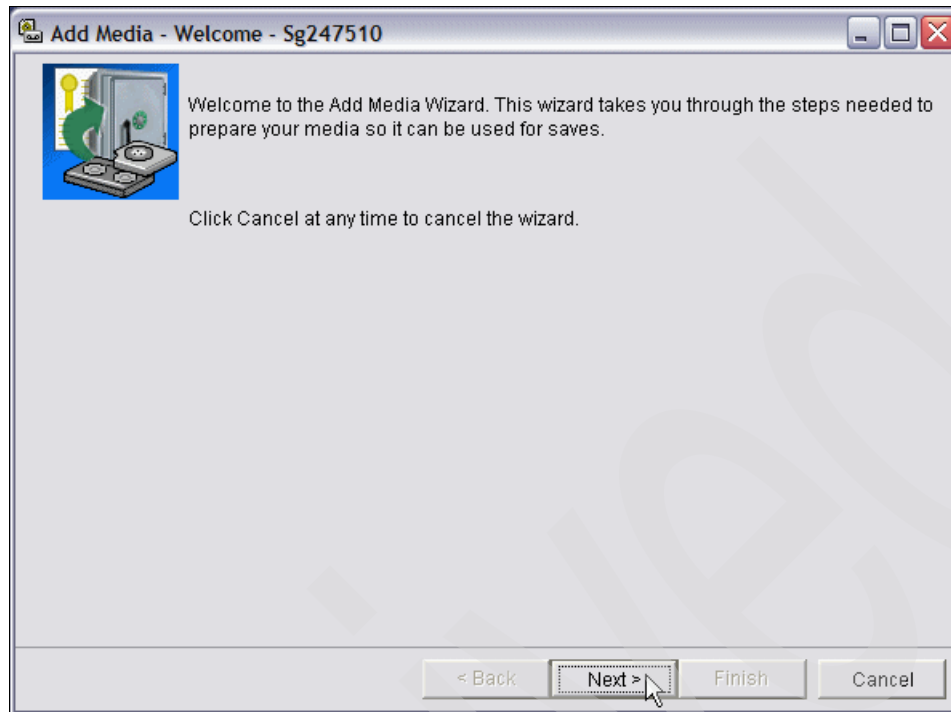

Figure 6-33 Add Media - Welcome
2. The Add media wizard is presented (Figure 6-33). Click **Next**.